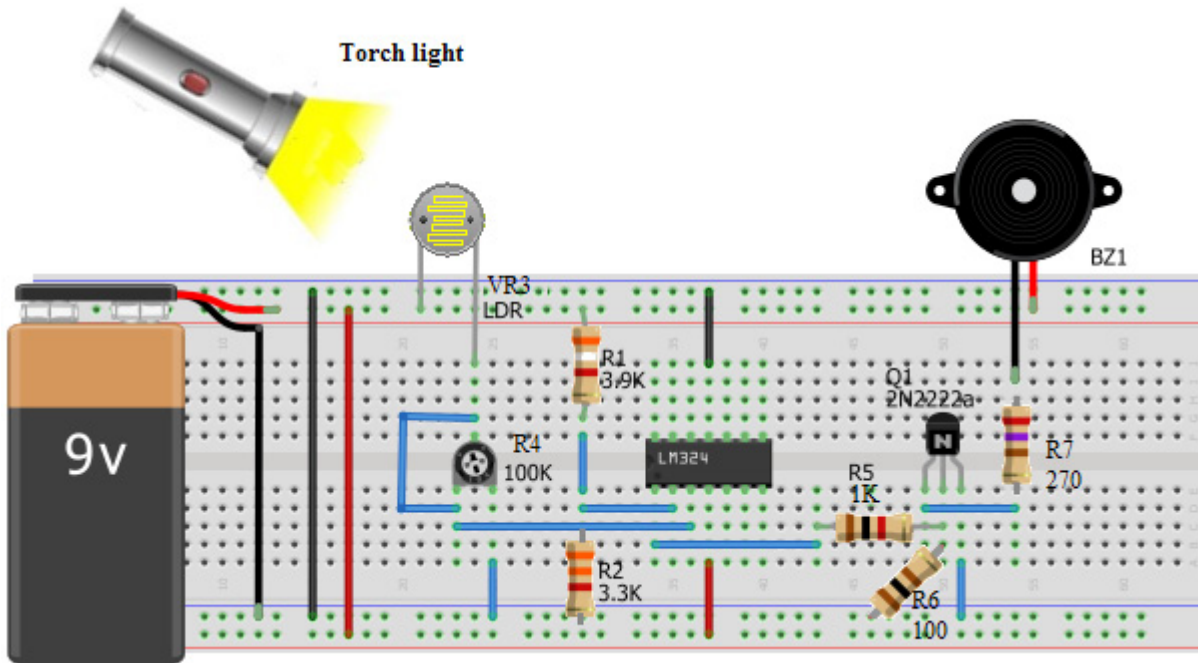

Figure 7-18: Light-level detector circuit connection (non-inverting comparator)
1. Connect the circuit as illustrated in figure 7-18. Wire the positive terminal of the battery to power bus of breadboard and negative terminal of the battery to ground bus of breadboard.